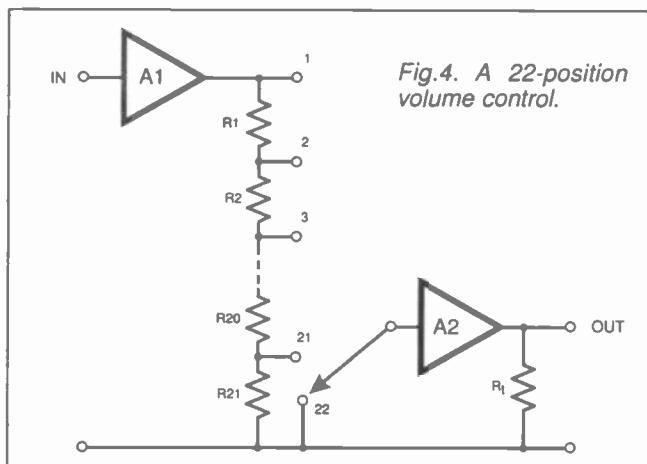

Fig.4. A 22-position volume control.
To design the volume control we will use the simplified situation shown in Fig.4. The volume control is a potential divider placed between two amplifiers, it therefore attenuates the output of the first amplifier, A1, before passing it to A2.
Referring to Fig.4, the switch S1 has 22 positions so there are 21 resistors. The first position (1) bypasses the divider and connects the amplifiers directly together. This is full volume (0dB attenuation). The 22nd position connects the input of the second amplifier to ground so no signal will be output (infinite attenuation): we could label this position "Mute". This leaves 20 remaining positions for different volume levels.
Note that S_n is the equivalent of R_A in Fig.4, if we take the output from just below R_n . By taking the limit in the above equation, in which $n \rightarrow \infty$, we get the value of R_t (the total resistance of all the resistors).
This is useful because it allows us to calculate the value of the first resistor in the volume control (R1 in Fig.4) once we have decided on the attenuation step and the total resistance value we want to use. From there we can use the fact that each resistor in the chain can be found by multiplying the previous value by k .